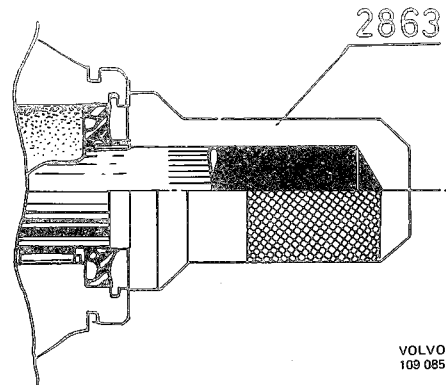

Fig. 6-62. Installing sealing ring
5. Fill the space between the new sealing ring lips with multipurpose grease. Fit the sealing ring on to installation tool 2863 with the help of the loose guide. Remove the guide and fit the sealing ring in the steering housing, see Fig. 6-62.